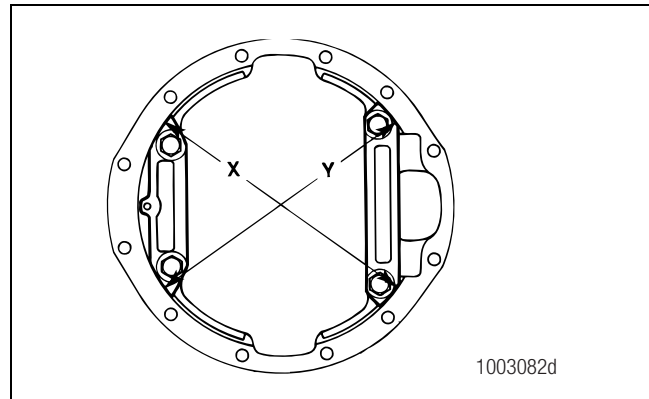
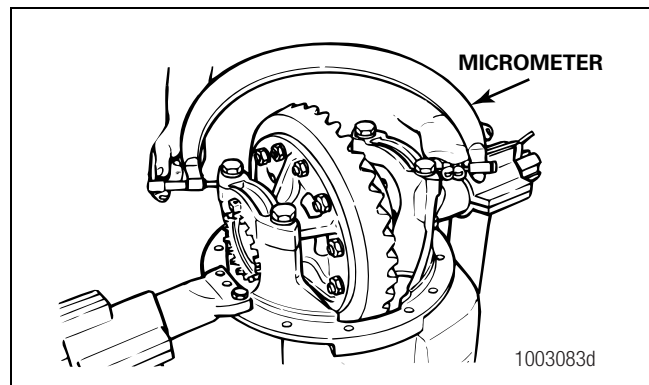

Figure 5.40
Figure 5.41
2. Use a large micrometer to measure distance X and Y between the opposite surfaces of the bearing caps. Record the measurement. Figure 5.40 and Figure 5.41.